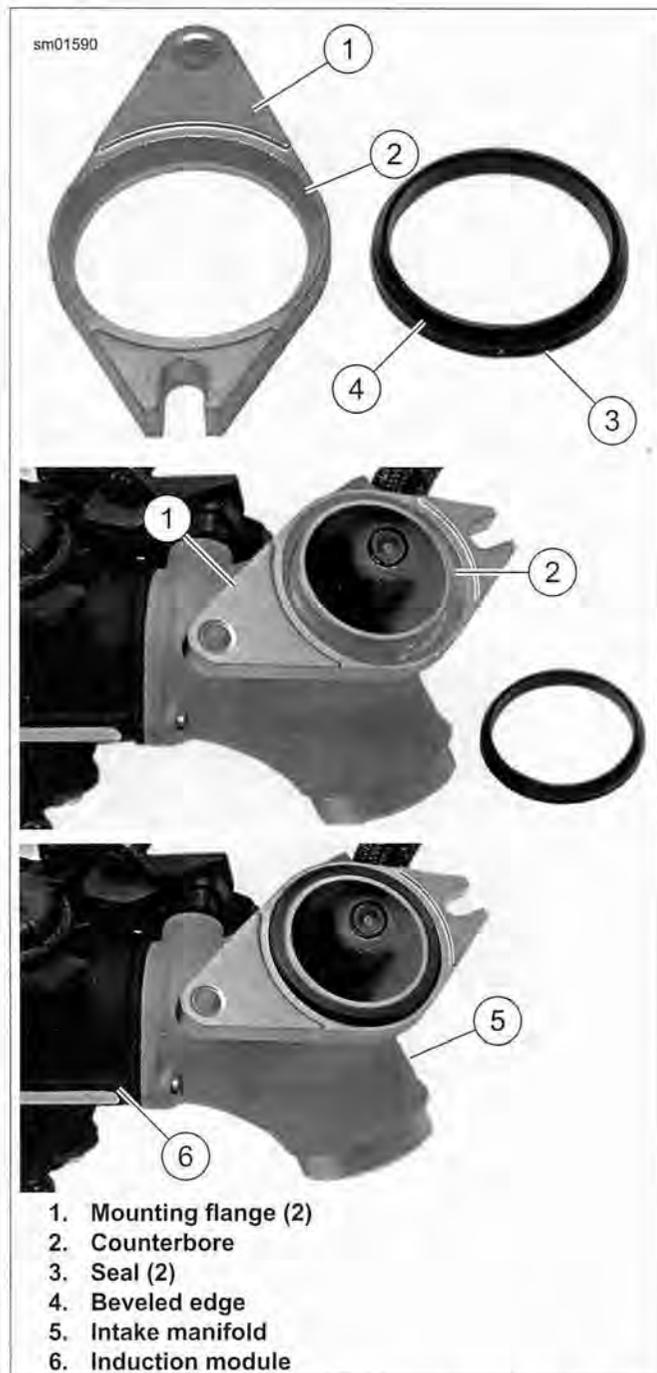

Figure 4-39. Installing Mounting Flange and Seal
2. See Figure 4-39. Install mounting flanges (1) on intake manifold (5) with counterbore (2) facing away from manifold and open slotted ends of flanges facing away from induction module (6) as shown in the figure.
3. Place a **new** seal (3) into each mounting flange with the beveled edge (4) facing the mounting flange counterbore.